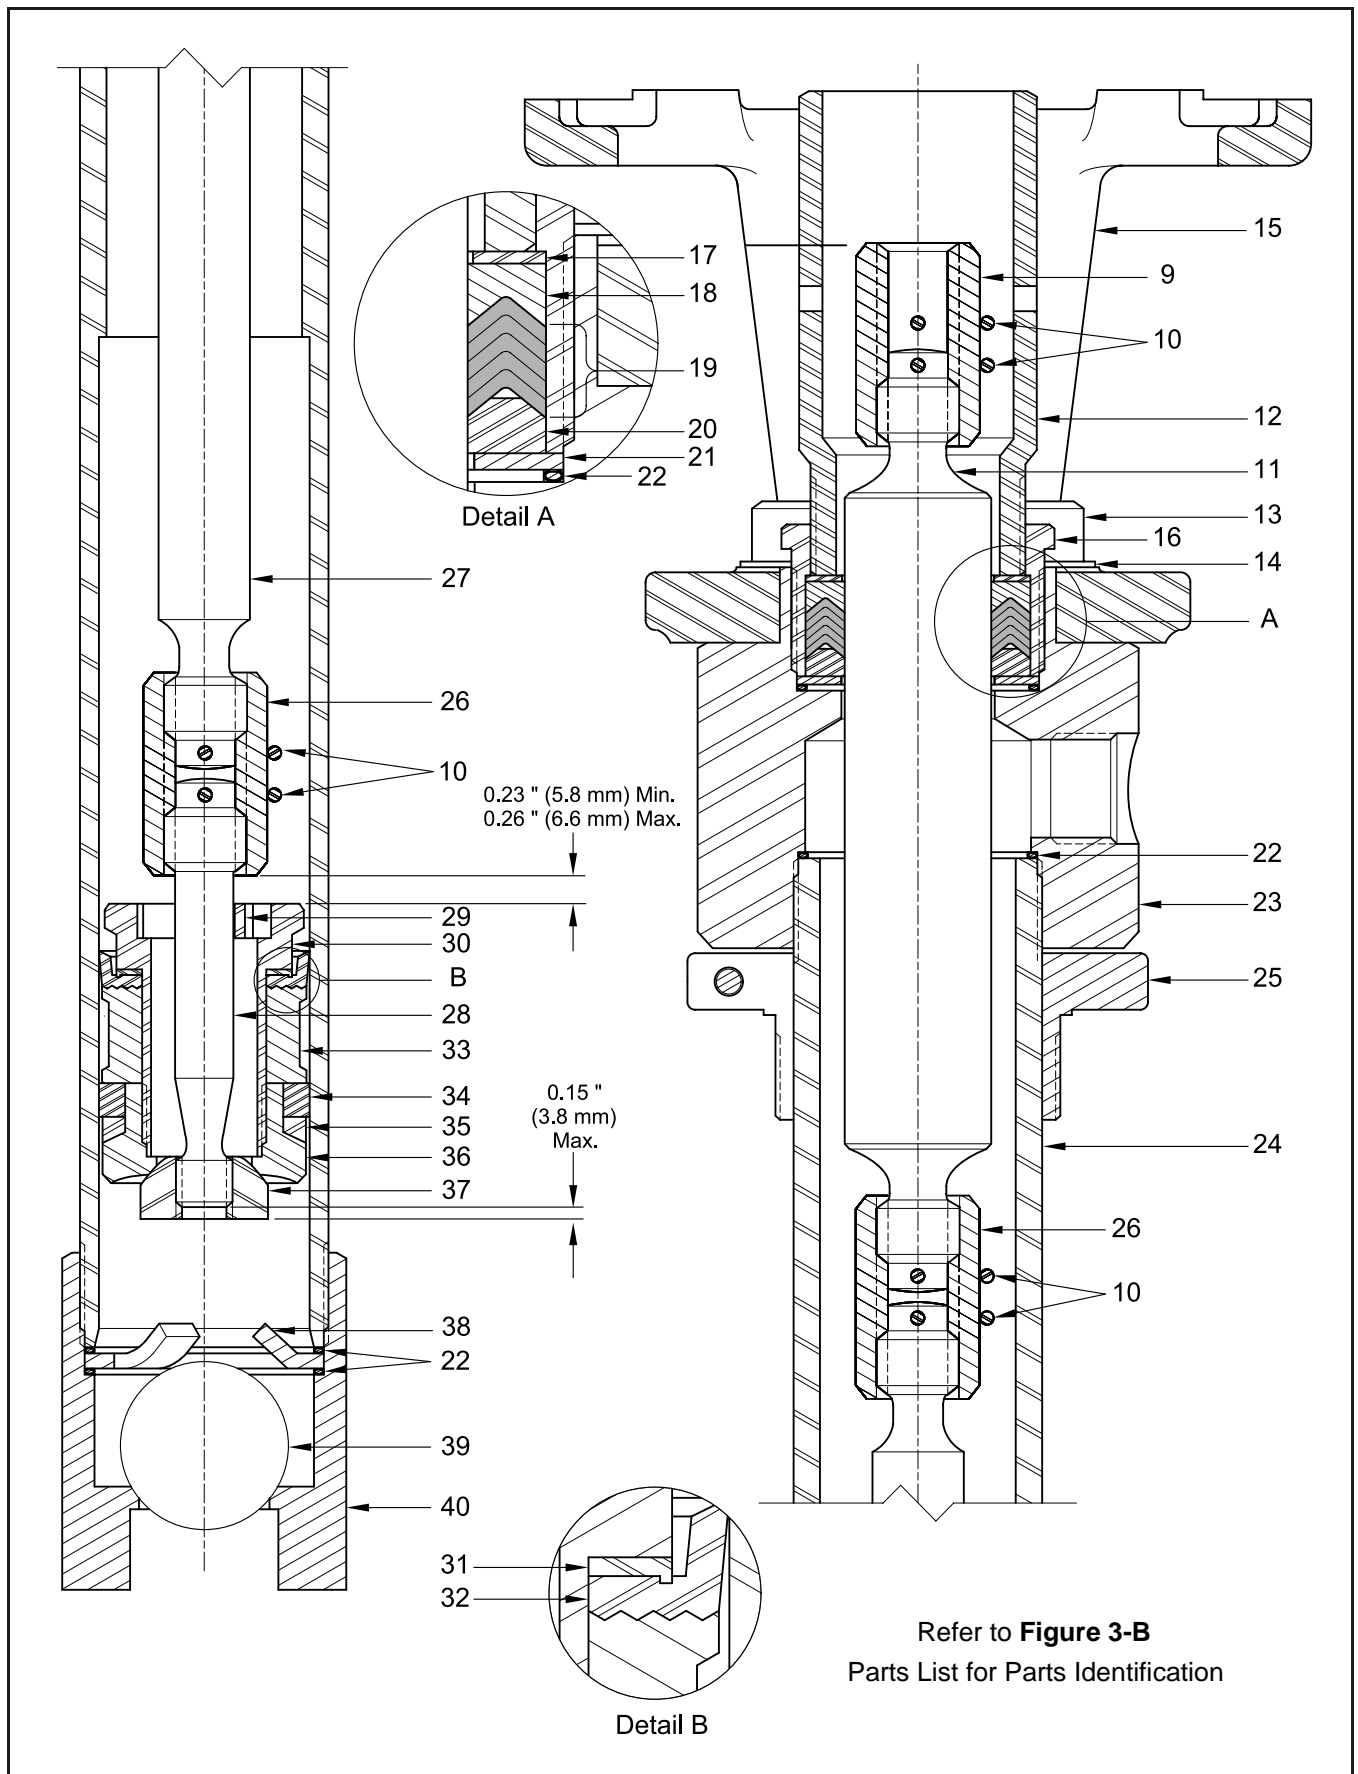

Figure 5 Pump Tube Assembly 327675-5 - Section View
NOTE: Refer to **Figure 5** for a section view of the Pump Tube Assembly.
10. Install Washer (31) [lip upward], Cup Packing (32) [flat side upward], and Spacer (33) [grooved end first] onto the Adapter.
11. Install Back-Up Ring (35) [concave end first] and Packing (34) onto Valve Seat (36).
13. Install Stop (29) onto Stem (28).
15. Clamp the flats of Valve (37) horizontally into a soft-jaw vise.
- The distance must not be greater than 0.15 " (3.8 mm). See **Figure 5**.
18. Screw lower Coupling (26) onto the Stem until the Spring Clip holes align.
- The distance must not be less than 0.23 " (5.8 mm) and no greater than 0.26 " (6.6 mm). See **Figure 5**.